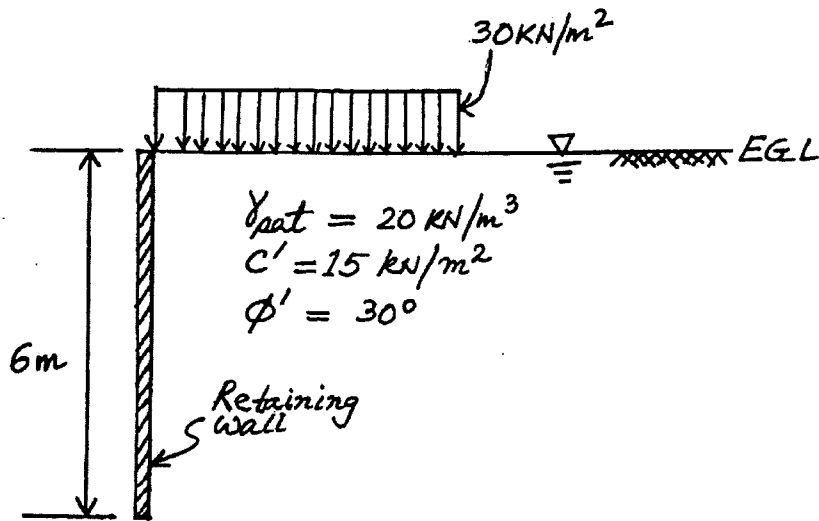

Figure 1
- Shear stress versus shear displacement for loose sand and dense sand in consolidated drained (CD) direct shear tests.
- Volume change versus axial strain for saturated samples of normally consolidated and overconsolidated clays in consolidated drained (CD) triaxial compression tests.
- For the retaining wall shown in Figure 1, water table is located at the existing ground level (EGL). Draw passive pressure diagrams due to backfill ($\gamma_{\text{sat}} = 20 \text{ kN/m}^3$, $c' = 15 \text{ kN/m}^2$ and $\phi' = 30^\circ$), surcharge (30 kN/m²) and ground water separately. Also determine the total passive force per metre length of the wall. [9]